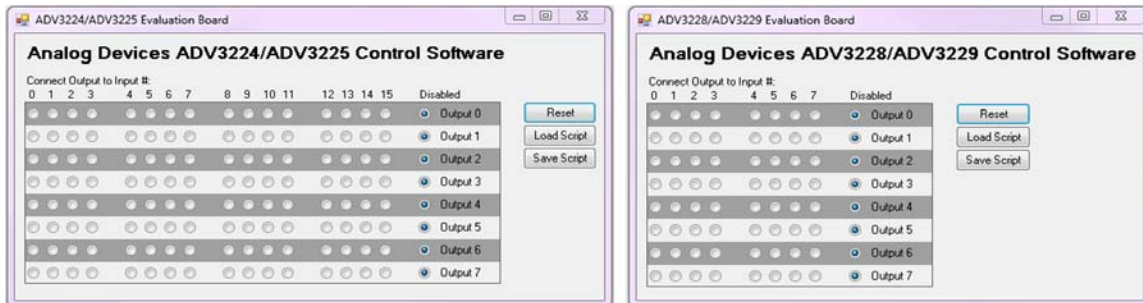

Figure 4. GUI Window for ADV3224/ADV3225 (Left) and GUI Window for ADV3228/ADV3229 (Right)
2. Extract the .zip file and open or run the .exe file. The graphic user interface (GUI) for the ADV3224/ADV3225 and ADV3228/ADV3229 appear as shown in Figure 4. By default, all inputs and outputs are disabled, although an input signal is present in the input port of the evaluation board.